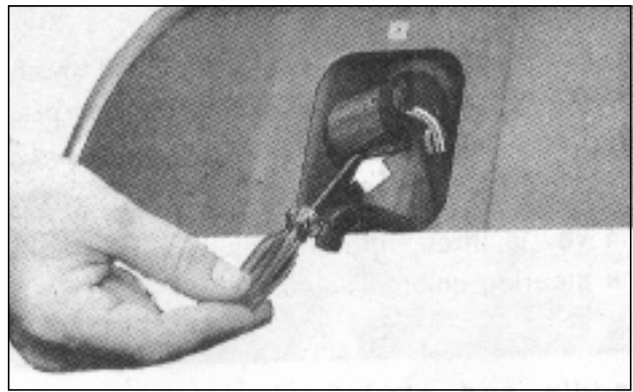

Fig. 211 - Inserting a screw driver
- (ii) Insert a small screwdriver into the hole as indicated with arrow in fig.211, the hole is on the lower side of the lock's outer body.
- (b) In case of key mislay, when the security lock is in the open position, take off the pushing up to the end lever 'F' as shown in fig.211 and fit a new barrel, after cleaning the housing.